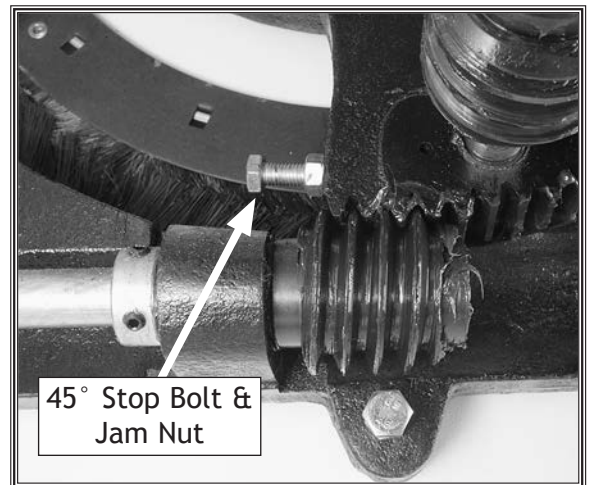

Figure 99. 45° stop bolt and jam nut.
5. Loosen the jam nut on the 45° stop bolt (see **Figure 99**) with a 13mm wrench, adjust the stop bolt up or down according to how far off the blade was from 45°.